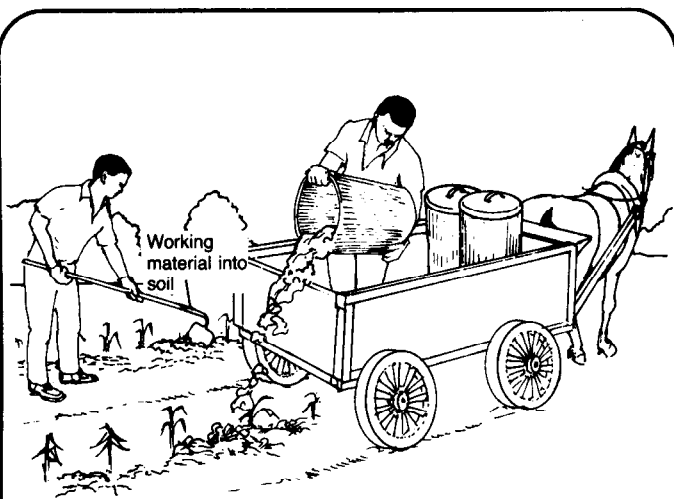

Figure 5. Disposing of Decomposed Contents of Digester
4. Haul the removed contents in containers and carts to crop land. Spread it on the ground and work it into the soil. It is an excellent fertilizer since it is high in nitrogen compounds. See Figure 5.